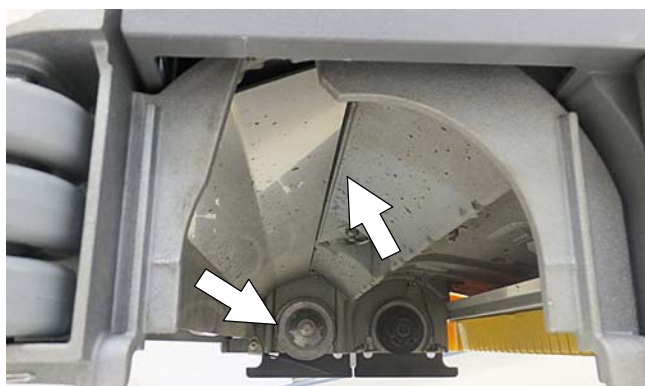

FIG. 114
5. Cylindrical scrub head - Remove debris buildup from underside of scrub head, including the idler plates and drive hubs (Figure 114).